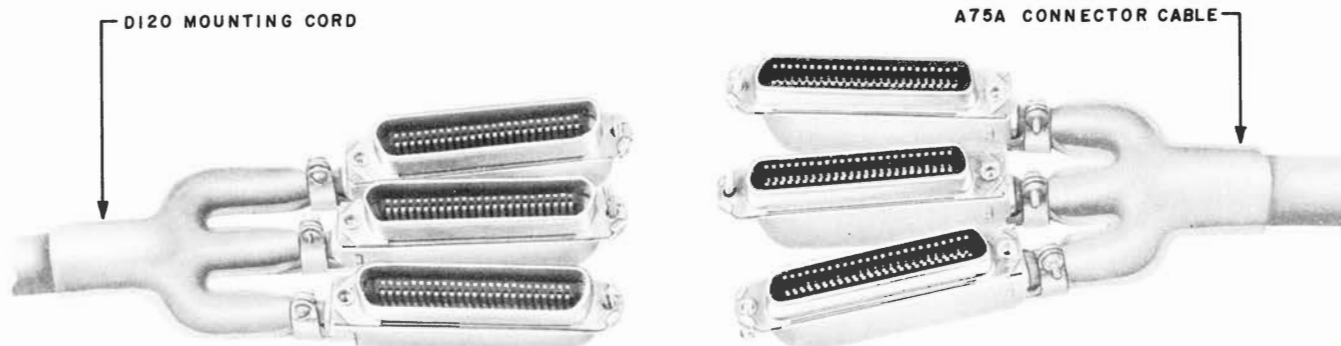

Fig. 3—Mounting Cord and Connector Cable
2.08 A-type connector cables are used to connect the mounting cord to the key system apparatus cabinet or distribution terminal (Fig. 3 and 4). See the section entitled Overfloor Ducts, Identification and Installation for housing mounting cord plugs and connector cable connectors.